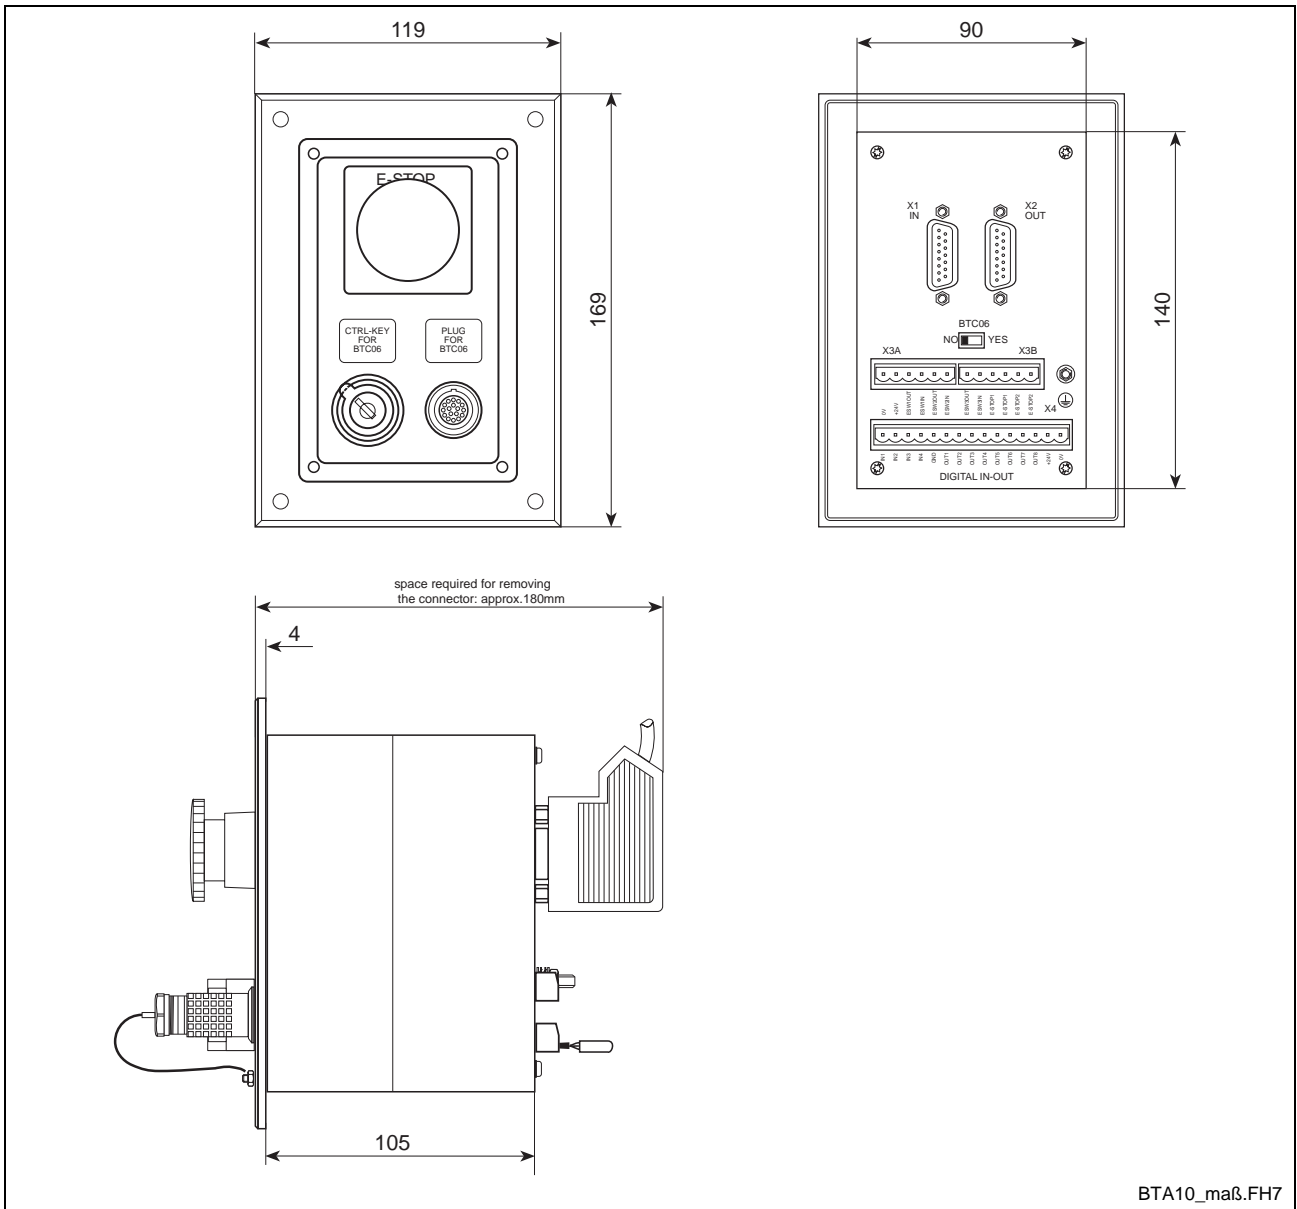

Figure 5-1: Enclosure dimensions
- Figure 5-1: Enclosure dimensions 5-1